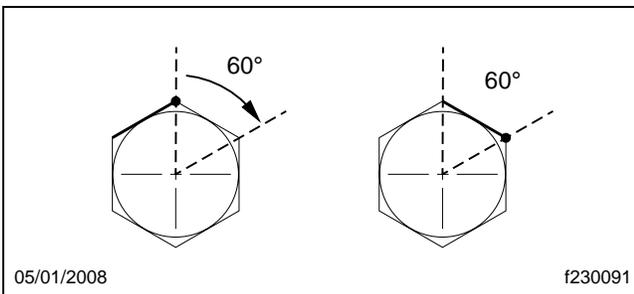

Fig. 6, Turning the Fitting One Flat (60 degrees)
32. Attach the lines to the plumbing adaptors on the steering gear, while ensuring that the lines will not touch the axle or each other once installed. Snug the connection with a wrench to ensure the fittings are seated, which is equivalent to approximately 2 lbf·ft (3 N·m). Then, using a backup wrench to keep the adaptors from turning, tighten the return and supply hoses by 1 flat of the tube nut (60 degrees). See **Fig. 6**.